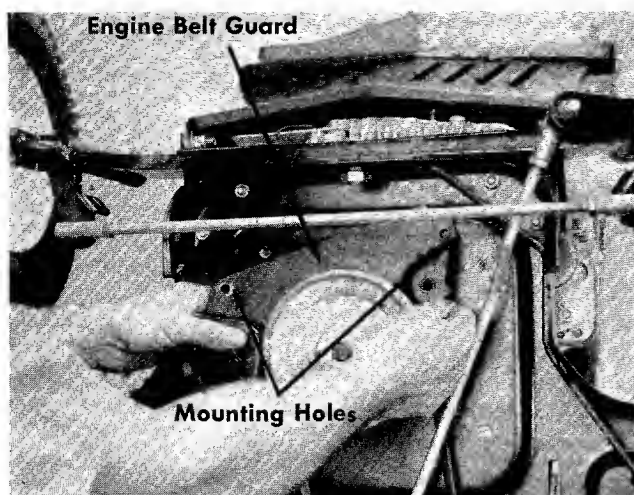

FIGURE 30. BELT GUARD REMOVAL
Step 8. Remove the engine belt guard by removing the two front engine mounting bolts. See figure 30.
- a. Remove the entire belt guard from the engine pulley by removing the two front engine bolts. See figure 30.